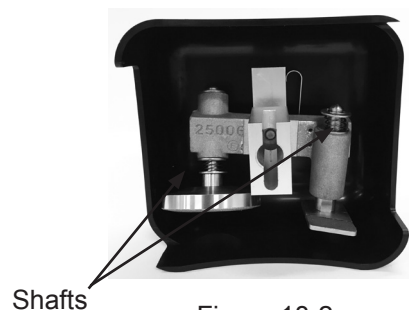

Figure 18-2
2. Apply several drops of Globe oil to the exposed shaft of both stones (Fig. 18-2).